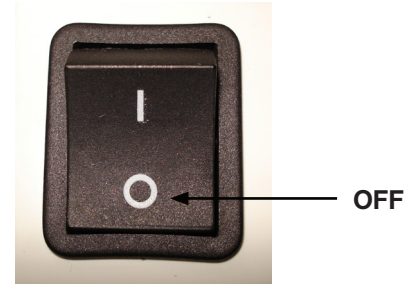

Figure 1
1. Ensure the ON/OFF (I / O) switch is positioned to “OFF” (O) (Figure 1).